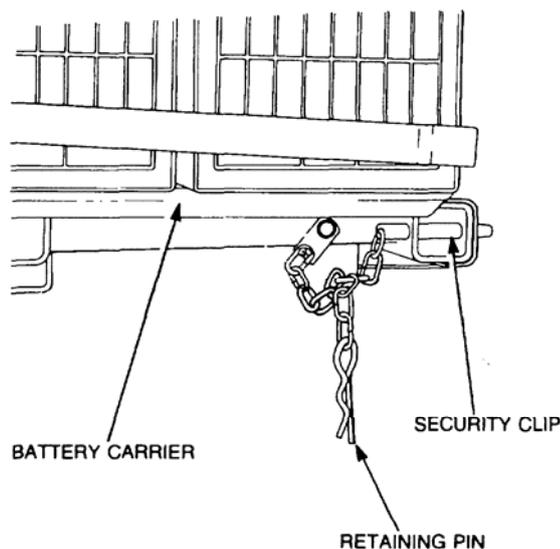

Figure 6 Battery Compartment
- b. Remove the security clip and pin from the battery carrier (refer Figure 6).